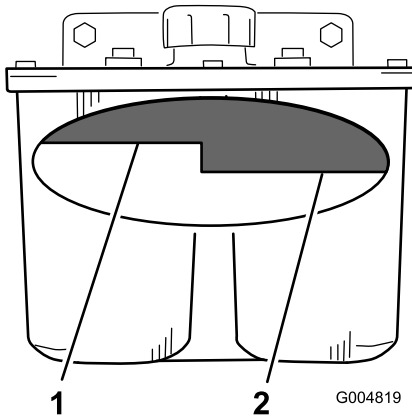

Figure 86
3. Clean the area around the filler neck of the hydraulic tank (Figure 86).
4. Remove the cap from the filler neck and look inside to check if there is fluid in the reservoir (Figure 86).
Note: The fluid level should be to the top of the hot level of the baffle, when the fluid is hot (Figure 86).